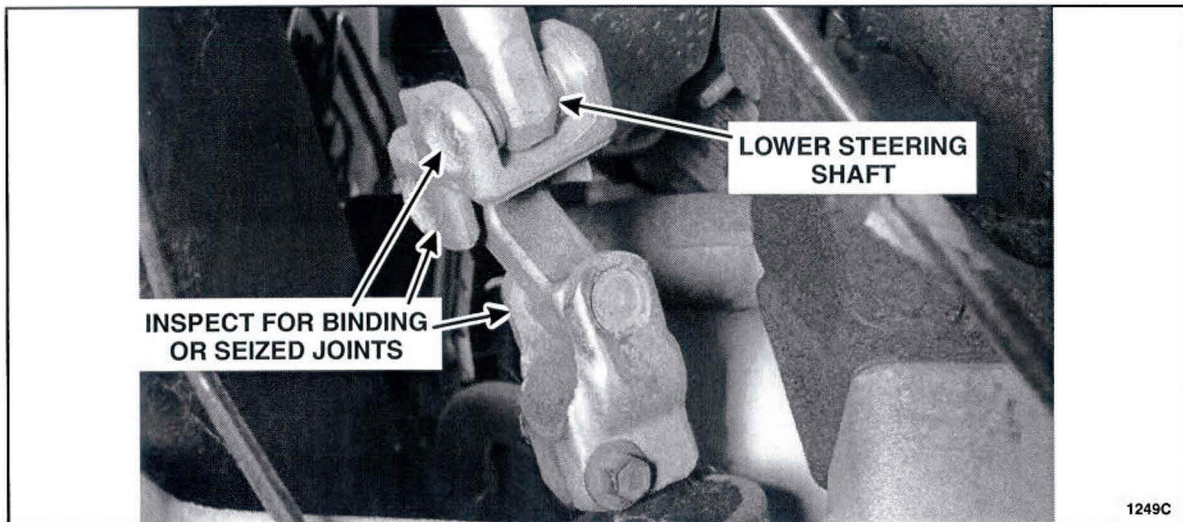

FIGURE 2
3. Inspect the lower steering shaft joints for binding or seizure. See Figure 2.